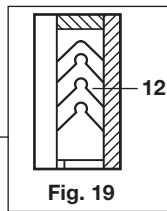

Fig. 19
**Note** that the lower bearing must be fitted with the radius edge downwards. When fitting the chevron seals they should be inserted one at a time (see Figure 19). It may be necessary to compress the spring and seat using the gland nut after fitting two or three chevrons and to repeat this at similar intervals until all PTFE components are in place.